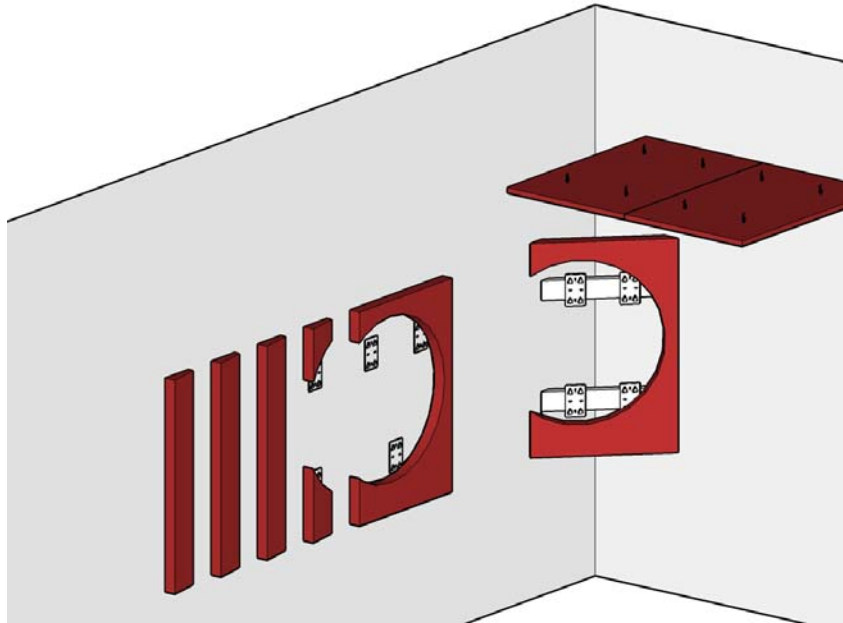

Fig 8 Clip Locations
- Attach three impale clips to the wall per Absorber using screws into studs, wallboard anchors and screws, or other appropriate fasteners. The spiky flanges should point toward the ceiling as shown in fig 8. The position of the impale clips does not matter as long as they are hidden behind the Absorber. We recommend that you position one clip 6 inches (15cm) from the top edge and 6 inches (15cm) from the left edge, another clip 6 inches (15cm) from the top edge and 6 inches (15cm) from the right edge, and the third clip 6" (15cm) from the bottom edge, centered.
- Attach two impale clips to the wall per Abfuser Strip using screws into studs, wallboard anchors and screws, or other appropriate fasteners. The spiky flanges should point toward the ceiling as shown in fig 8. The position of the impale clips does not matter as long as they are hidden behind the Abfuser Strip. We recommend that you position one clip 6 inches (15cm) from the top edge and 6 inches (15cm) from the bottom edge, centered.
- In order to hang each Corner Trap in the corners of the room, you will need to use two corner braces supplied with the system as shown in fig 8. These braces will span the corner, the impale clips will attach to them, and the Corner Trap will hang from the impale clips. Install one brace centered at 36 inches (90cm) from the floor. Install the second brace centered at 60 inches (150cm) from the floor. Drive fasteners into the lateral walls that the brace spans.
- Screw 4 open screw hooks into the ceiling in a rectangular pattern 24 inches (60cm) by 12 inches (30cm), 6 inches (15cm) inside each edge of the Ceiling Panel, as shown in fig 8. Make sure that you secure the screw hooks in joists or use wallboard anchors. After all 4 screw hooks are installed, simply lift the wire loops (pre-installed in the Ceiling Panel) over the hooks. The Ceiling Panel will float a few inches (cm) below the ceiling.